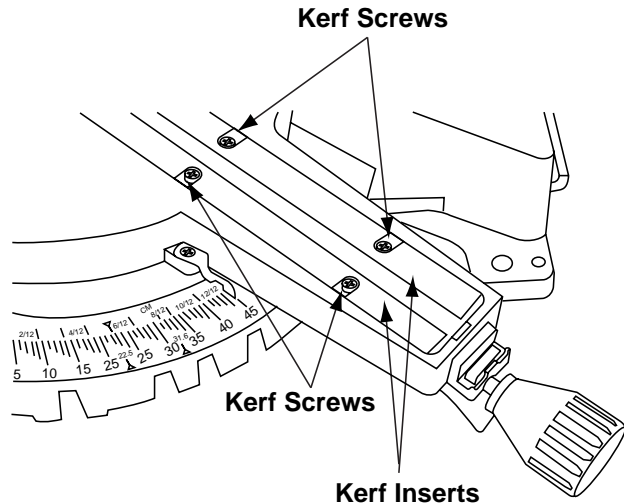

Figure 13. Kerf Insert
2. Loosen the six (6) kerf screws using the Phillips screwdriver (Figure 13).